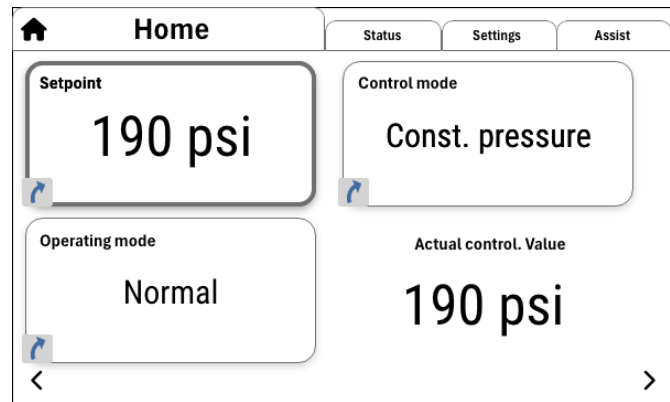

Fig. 4.4 - 1 - dispenseIT pressure gauge and pump home screen display
1. Verify that the system pressure on the dispenseIT pressure gauge and on the pump's display screen match (min 100 psi - max 200 psi) (Fig. 4.4 - 1, following page). To adjust system pressure, refer to Appendix 3.